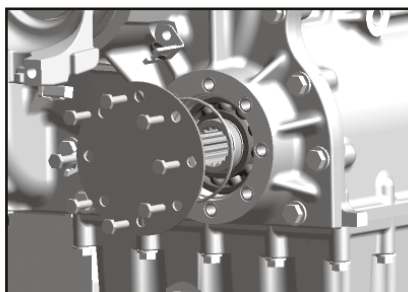

Fig. 2
3. Remove the O-Ring and clean the aperture surface. (Fig. 2)